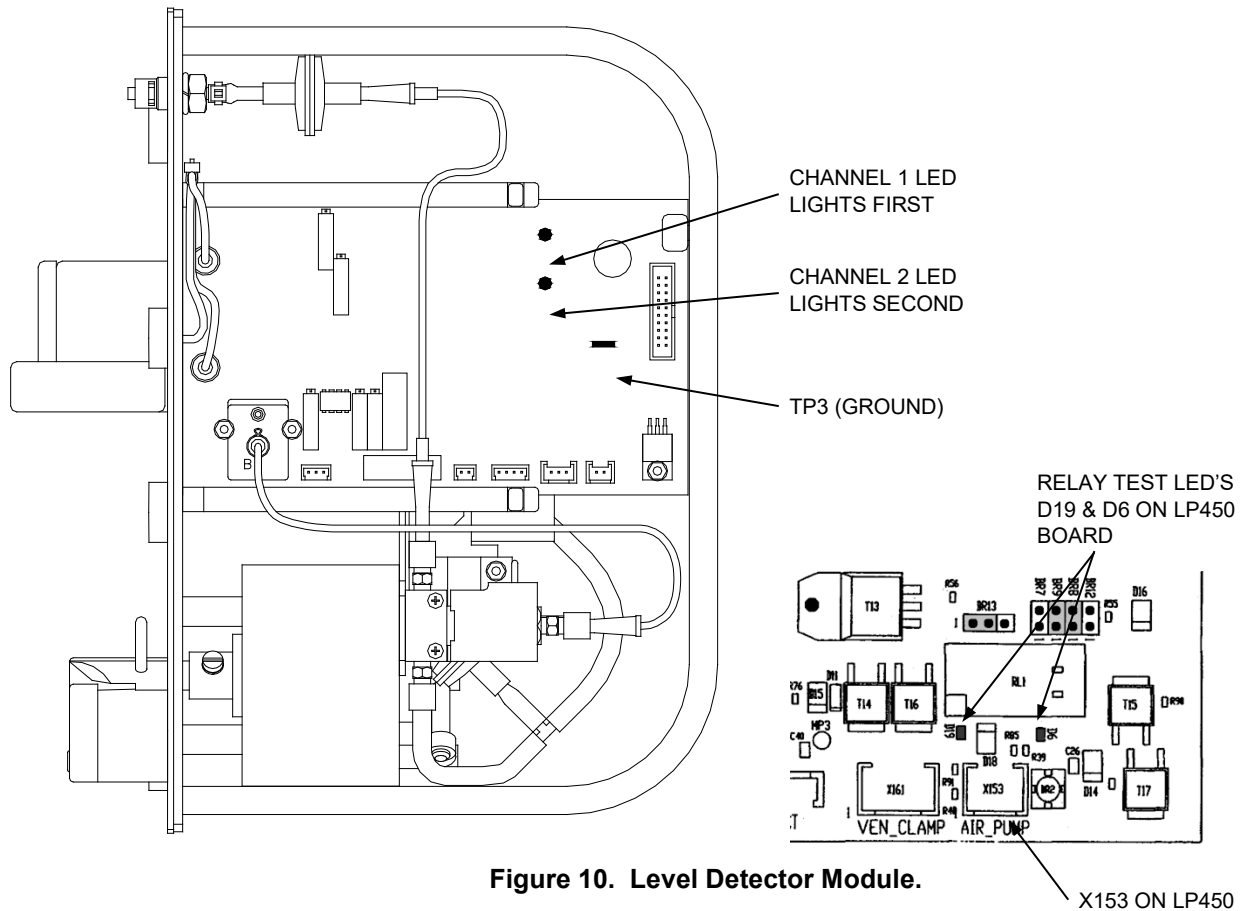

Figure 10. Level Detector Module.
3. Position the Level Detector so you can watch the Channel 1 and Channel 2 LED's on the circuit board (See Figure 10 on page 40).
- 2 Locate the relay test LED's D6 and D19 on the LP450 board (see Figure 10).